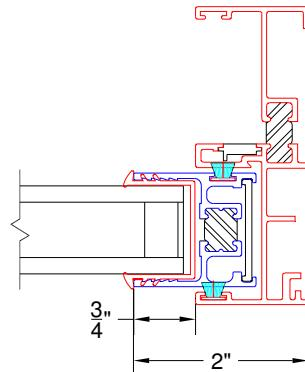

Figure 18:
4. Lift and move the panel into the fixed jamb until the fixed stile is $3/4"$ exposed (Figure 18).